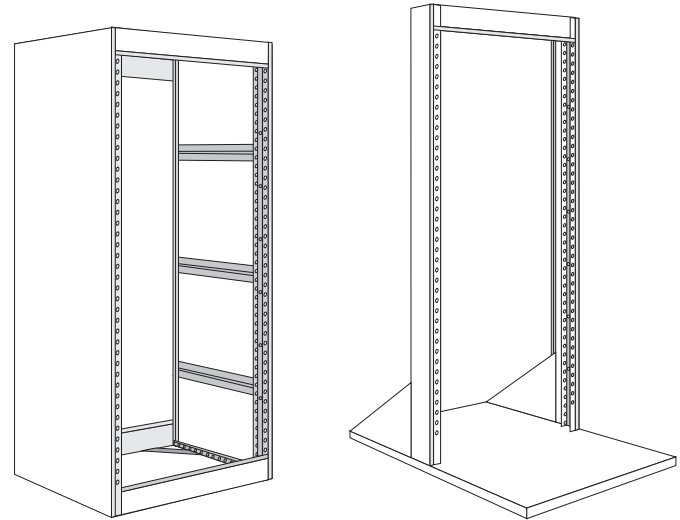

Figure C-2 Recommended Rack Styles
- Use an open style, 19-inch rack. The rack styles shown in Figure C-2 facilitate easy maintenance and provide excellent ventilation.